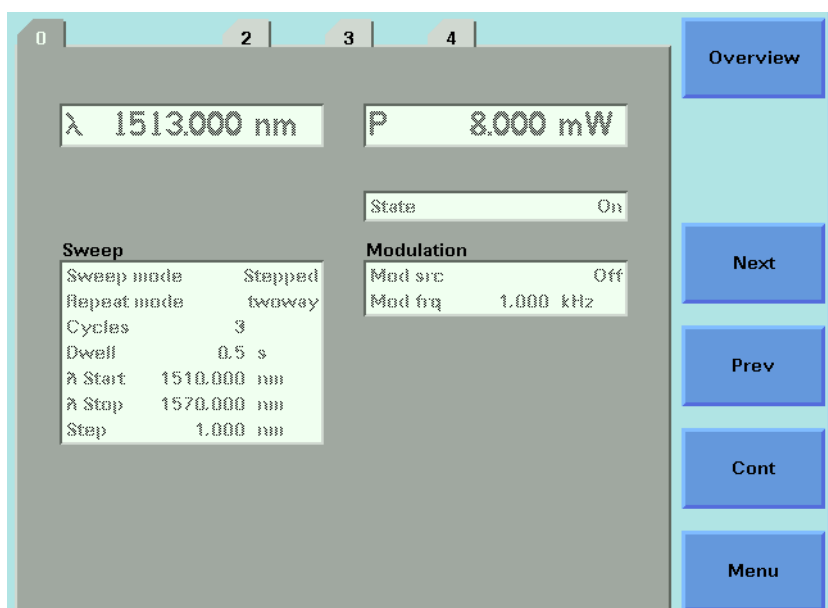

Figure 73 Pausing a Stepped Sweep
- b** press [Pause] to pause the sweep. The screen in Figure 73 appears. You can: